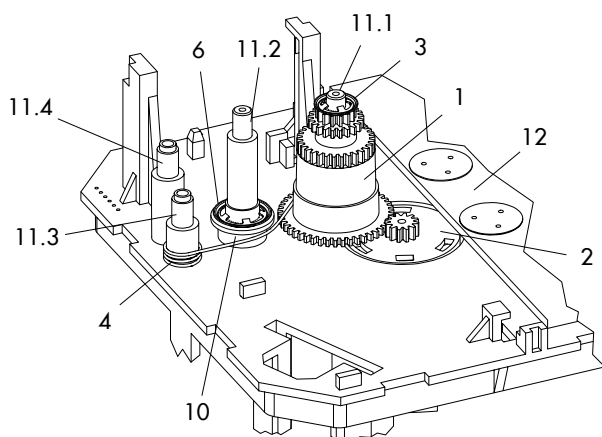

Fig. 26: Inside view of Type 3374 Actuator without limit contacts
- Actuators without limit contacts: see Fig. 26.
If the actuator does not have limit contacts, an additional retrofit kit (see Fig. 26) is required.